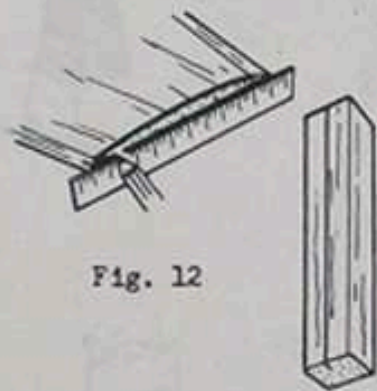
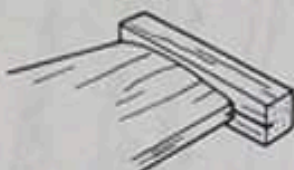

Fig. 12
Fig. 13
15. If you have not already drawn a centerline on the tip airfoil, do so now. Take a piece of soft balsa, $3/4"$ x $2"$ x $10"$ and also draw a centerline on it. See figure 12. Match centerlines and glue tip block in place as in figure 13. Glue fixed portion of outer trailing edge in place, lining up on tip block centerline. (Figure 14). Sand wingtip block to shape, being careful to taper into centerline (figure 15). Use full scale outline on template drawing to determine wingtip plan shape.